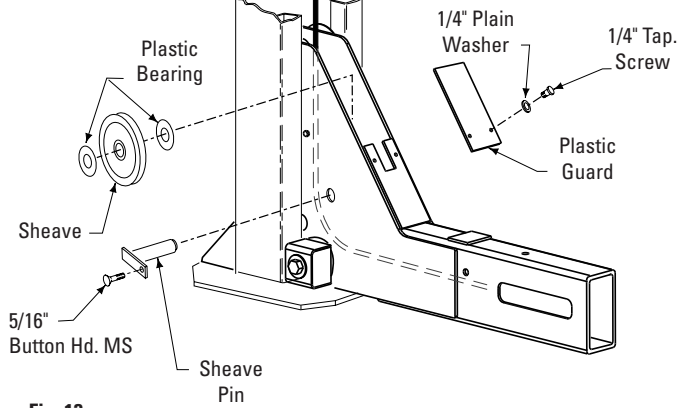

Fig. 13
10. Front Sheave Install: Install yoke end sheaves and plastic bearings. A plastic bearing is placed between each side of the sheave and the sheave spacers, Fig. 13, also refer to inset in Fig. 9. Retain with sheave pin and 5/16" button head machine screw. Be sure cable is located in the sheave groove.
11. Cable Install: Attach each cable to column top plate with nut, jam nut, and washer, Fig. 13. Install rubber sheave guard on each yoke end.